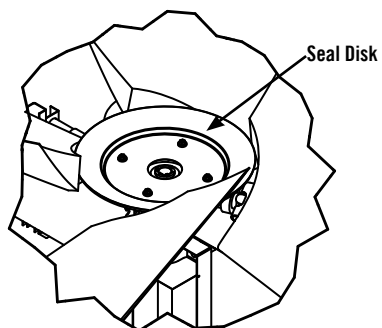

Figure 35. Remove Seal Disk
1. Remove fan seal disk (**Figure 35**).